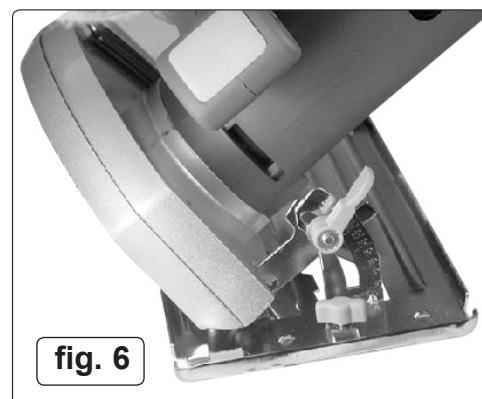

fig. 6
- 3.3.3 To adjust the angle of cut loosen the forward and rear locking knobs as indicated in fig.1. Lift the motor housing in relation to the base until the desired angle is achieved as indicated on the scale stamped onto the forward locking knob quadrant. (See fig.6). Tighten the forward and rear locking knobs.